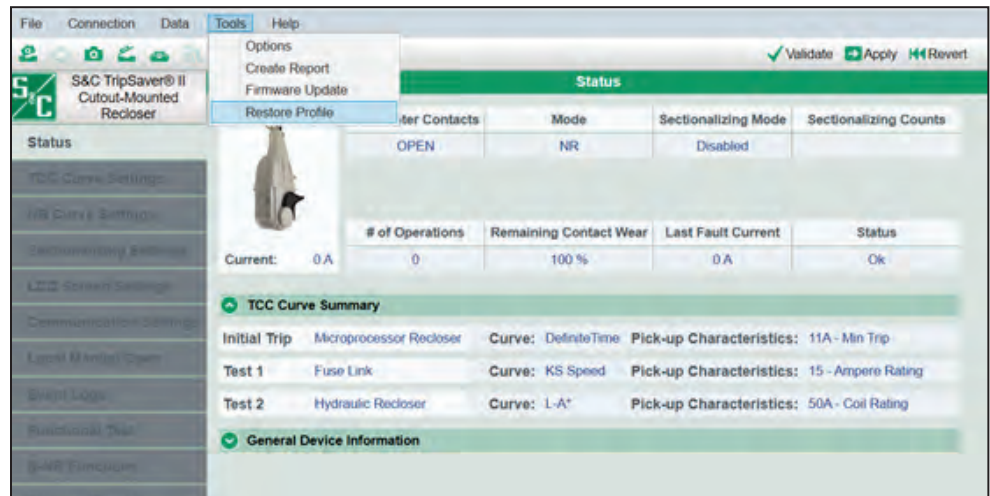

Figure 167. The Restore Profile menu item in the Tools menu.
- STEP 3.** Navigate to **Tools>Restore** menu item. See Figure 167.